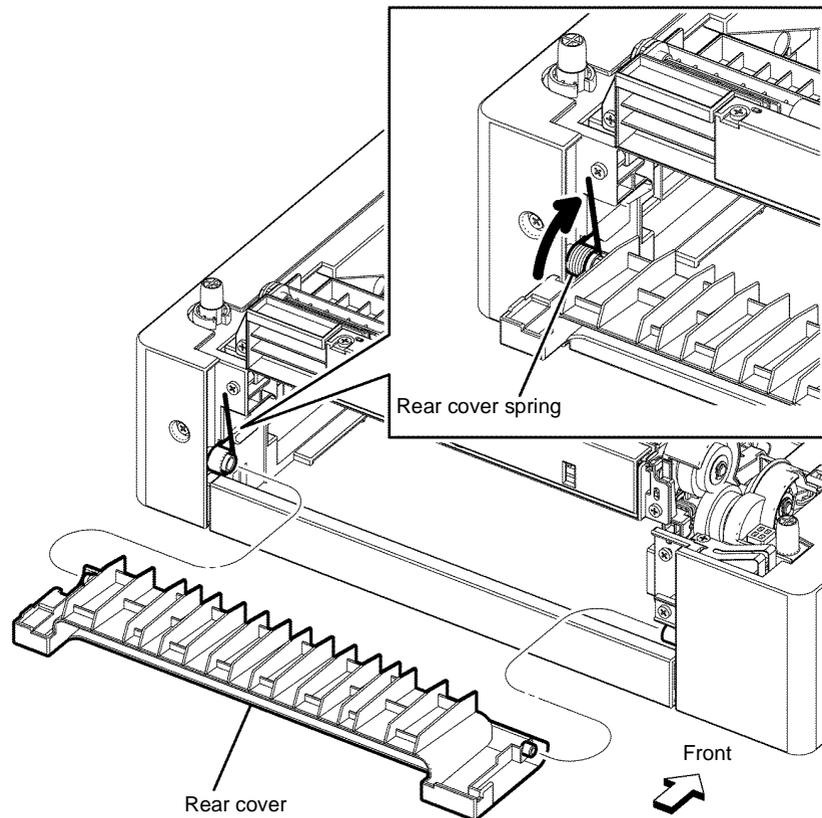

Figure 1 Option feeder 550 rear cover removal
3. Remove one side of the rear cover spring from the option feeder rear cover, Figure 1.
4. Remove the left boss from the hole, then remove the option feeder rear cover, Figure 1.